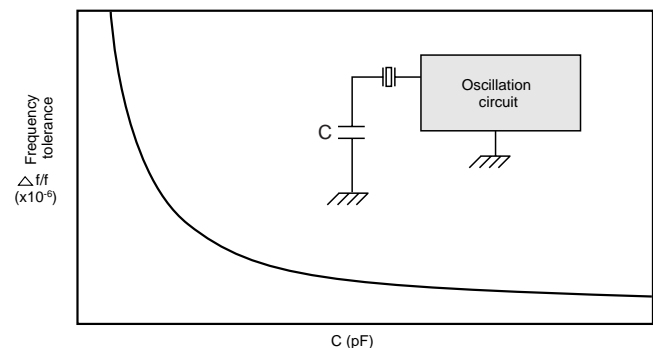

Figure 2) Load Capacitance Characteristics of Crystal Unit
**TCXOs ( Temperature Compensated Crystal Oscillators)** typically consists of tight tolerance quartz crystal, a temperature compensation network, an oscillator circuit and a variety of buffer and/or output stages determined by the output requirement. The crystal has a characteristic of changing frequency when a capacitor is inserted in series with the crystal unit as shown in (Fig. 2).